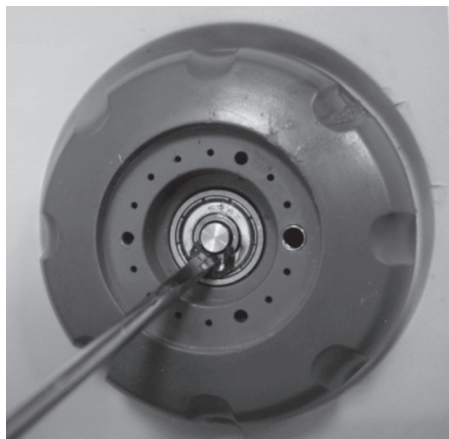

Fig.9
2.3.3 Remove the small rotate metal ring. As Fig. 9